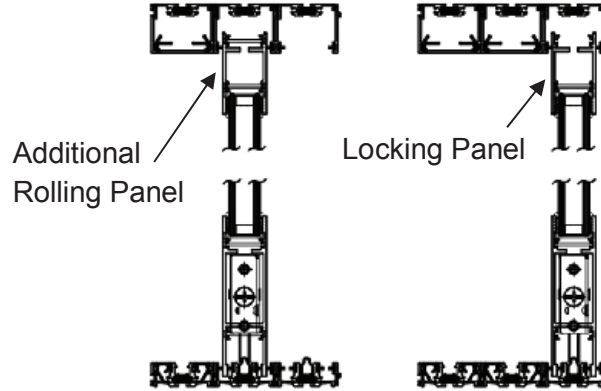

FIGURE 2
16. Temporarily adjust the panel upward by lifting the panel and turning the adjustment screw shown in Figure 1 clockwise as shown in Figure 2 until the rollers regain contact with the track. It is important to physically lift the panel while adjusting upward so that the adjustment screw does not strip due to the weight of the panel. Adjust the rollers of the active panels by turning the adjustment screw shown in Figure 1 to achieve proper alignment of the door panels (it is easier to adjust down than up). Turn screw clockwise to raise the panel and counterclockwise to lower the panel as shown in Figure 2.